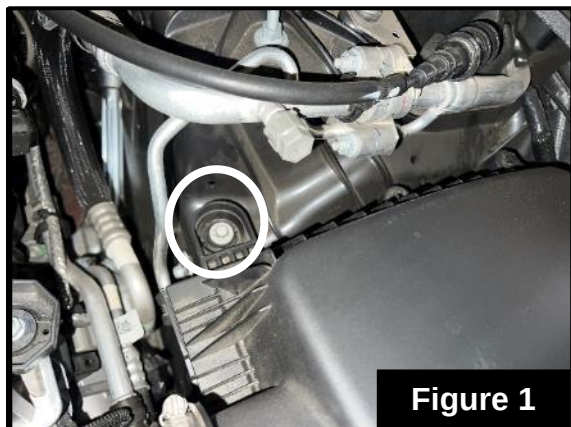

Figure 1
Step 13: Remove the two (2) bolts on the factory housing. Keep bolts for later use. **See figure 1.**